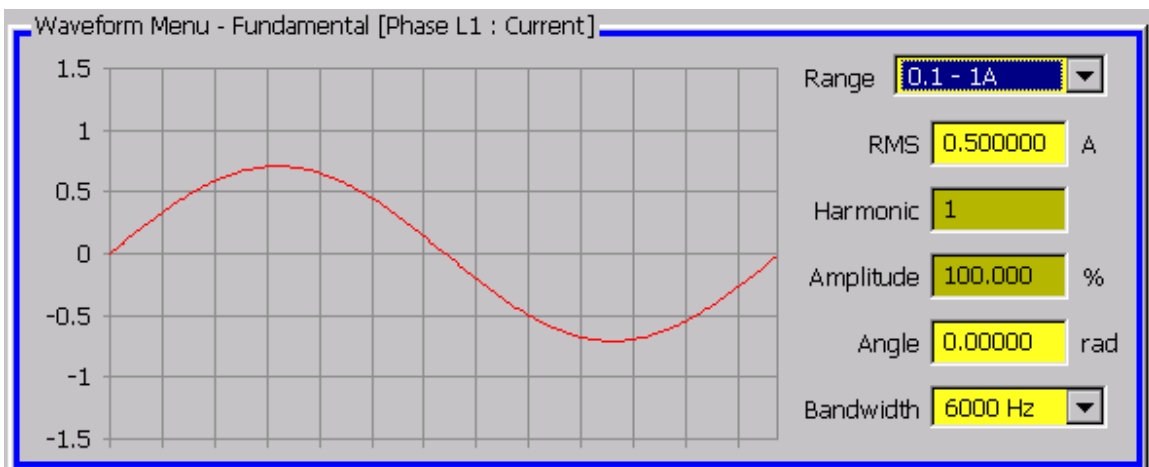

Figure 3-7. Waveform Menu, Fundamental
1. Push **SELECT MENU** twice. The Menu focus shifts to the Waveform menu. See Figure 3-7.